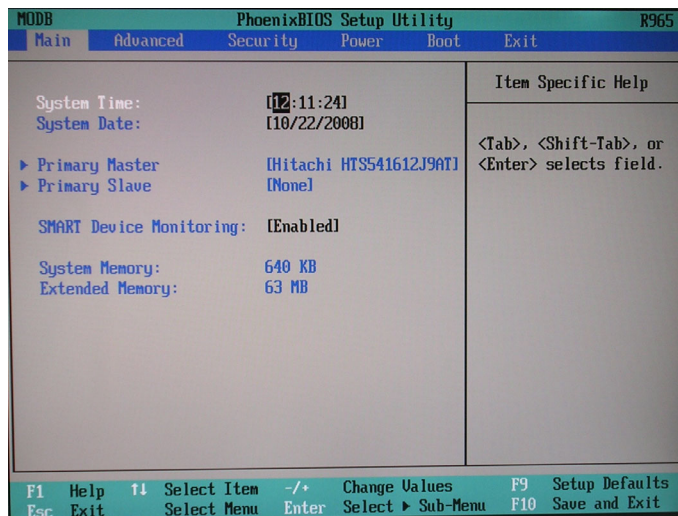

Figure 8-110 BIOS Main Tab
- 1.) From the BIOS main menu (see Figure 8-110), select the **<Advanced>** menu and press **<Enter>**.